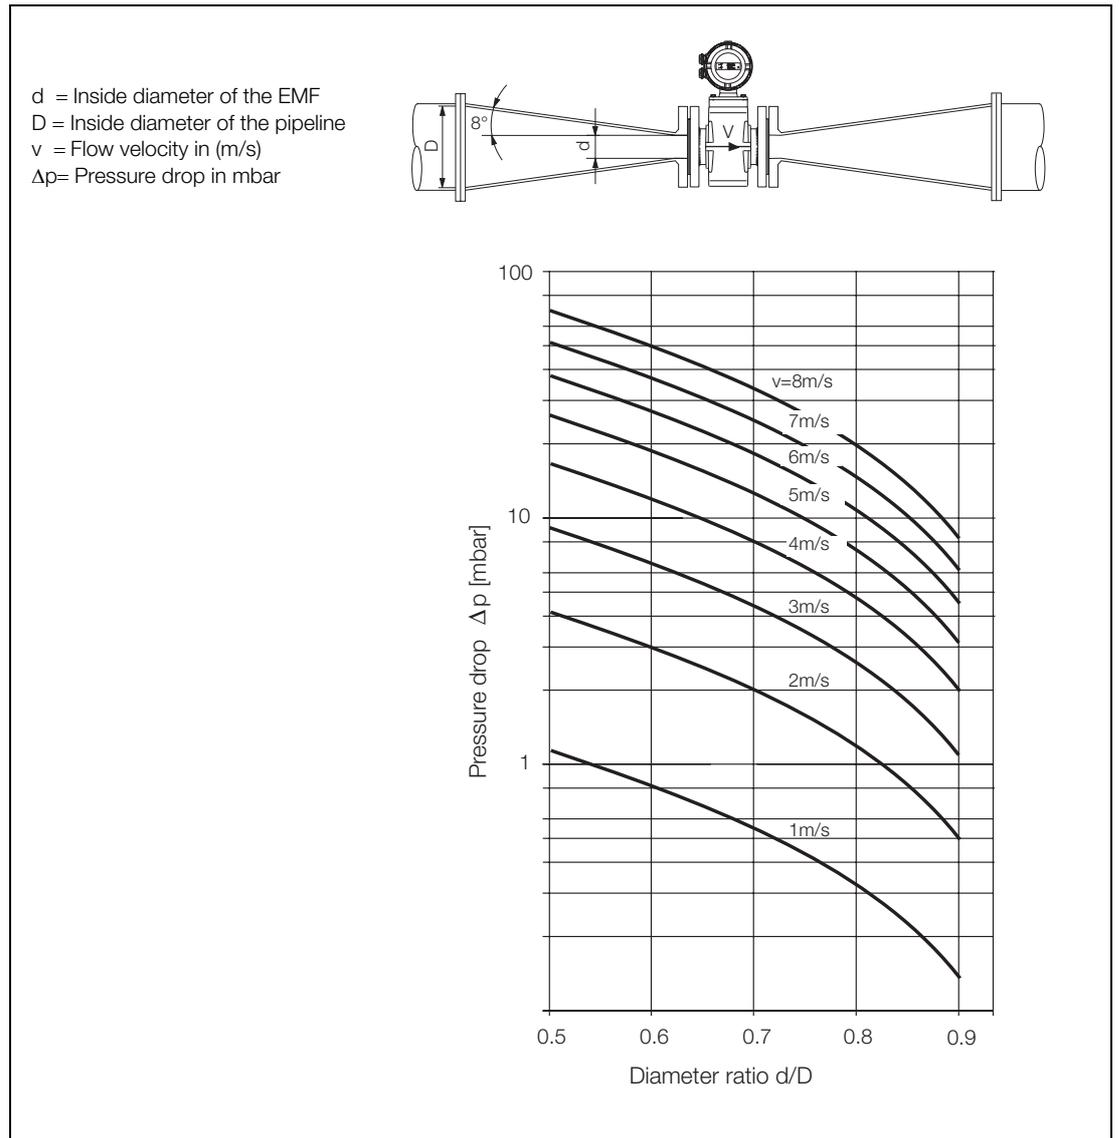

Fig. 18: Nomograph: Pressure Drop Determinations for EMF with Flanged Reducers $\alpha/2 = 8^\circ$
The flowmeter primary can readily be installed in larger pipeline sizes using reducers. The pressure drop resulting from the size reduction can be determined from the Pressure Drop Nomograph Fig. 18. The procedure for determining the pressure drop is as follows:
3. In Fig. 18 read the pressure drop on the Y-Axis at the intersection of the flow velocity and the "Diameter Ratio d/D " value on -X- axis.